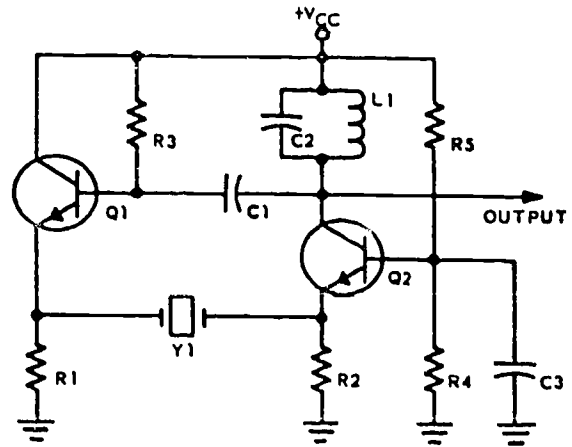

Figure 2-17. Crystal oscillator (butler type).
Butler Oscillator. The Butler oscillator, shown in figure 2-17, has two primary identifying features: two transistors are used, and a crystal is connected between the emitters. The purpose of the components is listed below:
2. Refer to figure 2-17. What is the purpose of R3?
4. Refer to figure 2-17. Where is the output taken from?